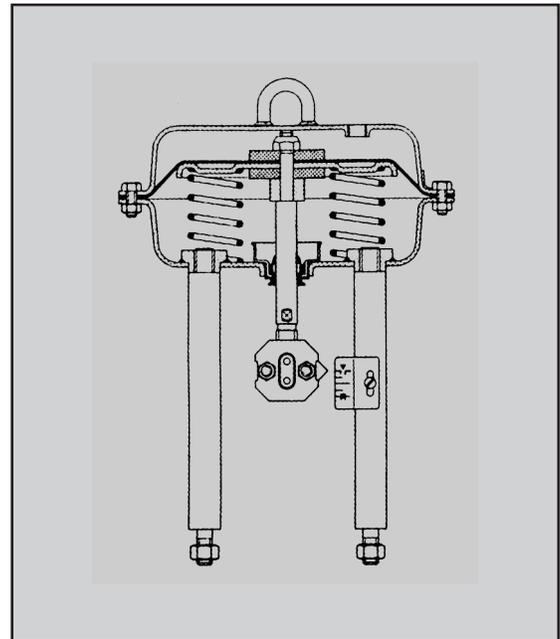

Figure 5: Reverse-acting actuator
5. On reverse-acting actuators (figure 5) apply sufficient air pressure to the actuator to start point (eg 0.5 bar).